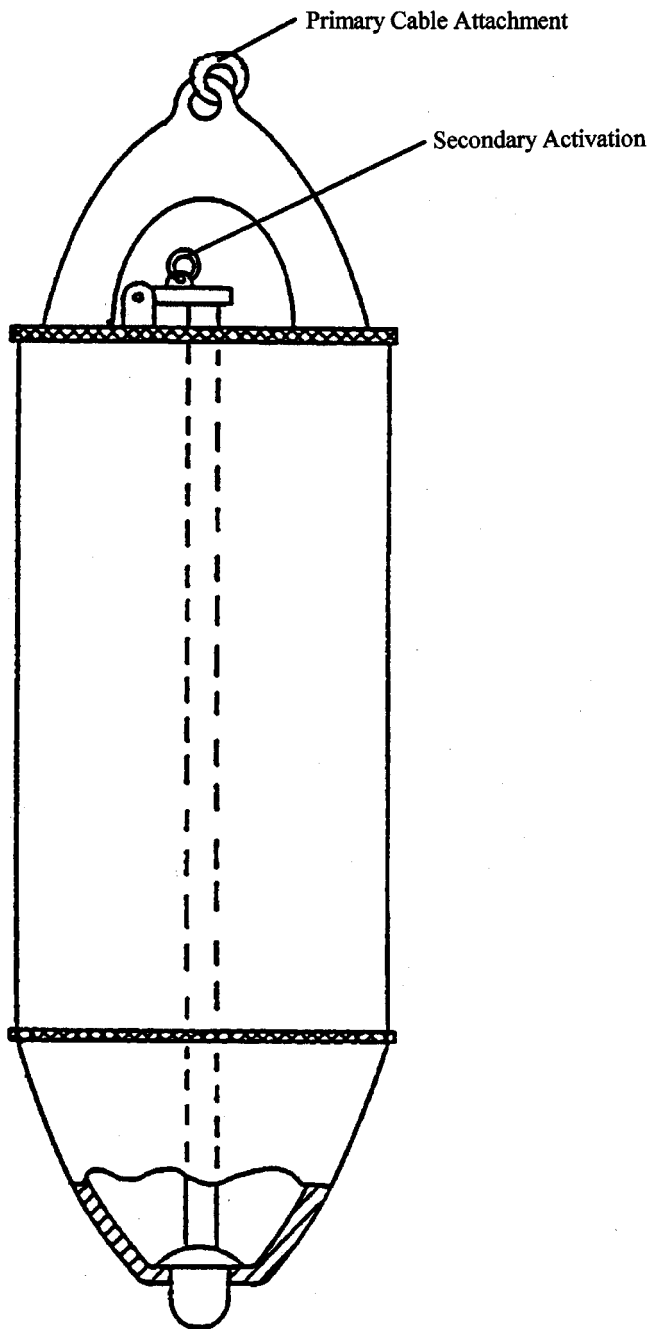

FIG. 4 Bacon Bomb
6.4.1 Description—The Bacon Bomb sampler consists of a sealed hollow tube or chamber. It is attached to a primary cable/line, with length markings and an actuator rod (labeled Secondary Activation in Fig. 4) connected to a second line, which opens and closes the chamber's valves.